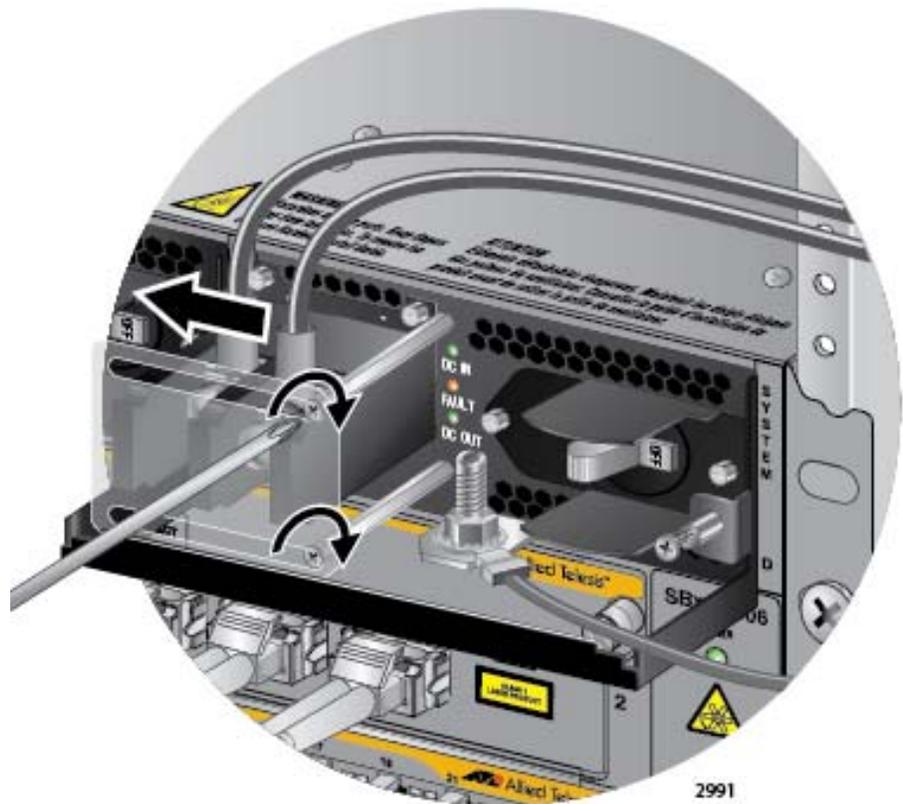

Figure 120. Closing the Plastic Cover over the Terminal Connectors
8. Slide the plastic cover to the left and lightly tighten the two screws with a #1 Phillips-head screwdriver to secure the cover. See Figure 120 on page 165. You might need to slightly lift the locking handle to access the bottom screw.
6. Slide the plastic cover to the left and lightly tighten the two screws with a #1 Phillips-head screwdriver to secure the cover. See Figure 120 on page 165. You might need to slightly lift the locking handle to access the bottom screw.